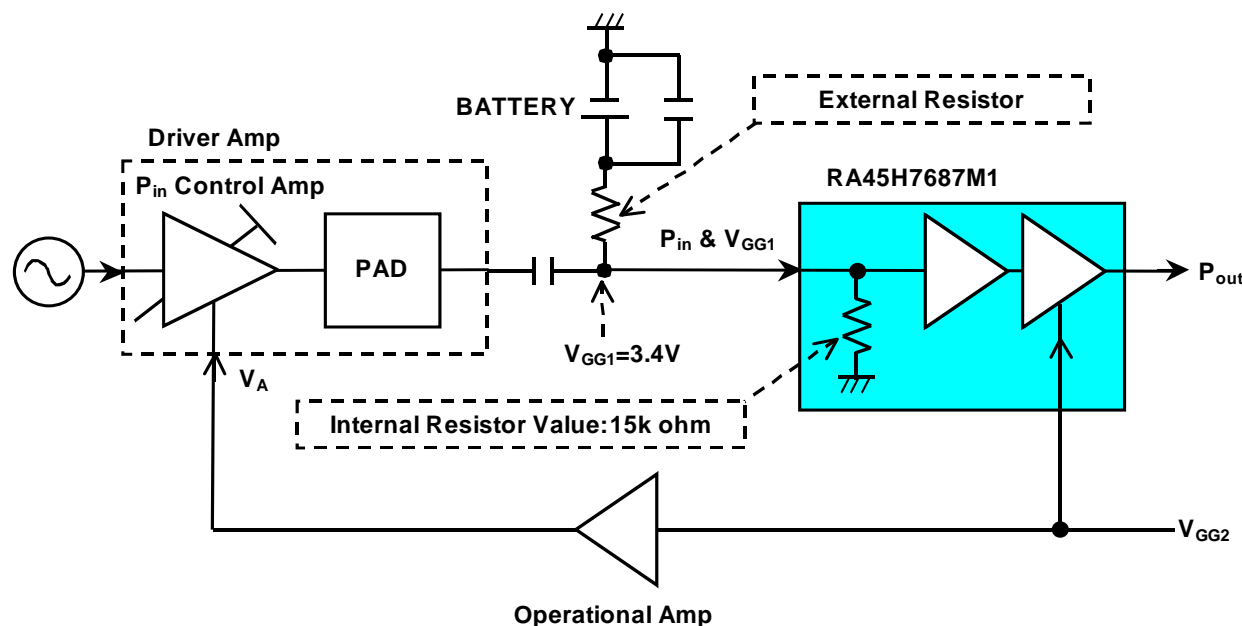

Figure 1 Recommended output power control block diagram for RA45H7687M1
Figure 1 shows recommended output power control of RA45H7687M1, which can be controlled by V_{GG2} and P_{in} adjusters.
The internal resistor value in this module between V_{GG1} , where RF is input, and ground is equal to 15k ohm as shown in figure 1. DC voltage between V_{GG1} and ground has to be fixed at 3.4V (tolerance=7%) to keep minimum performance. So, it is necessary that the external resistor value and the battery voltage shown in fig.1 should be set accurately. A design example of the external resistor value (ERV) and the battery voltage (BV) is indicated below.